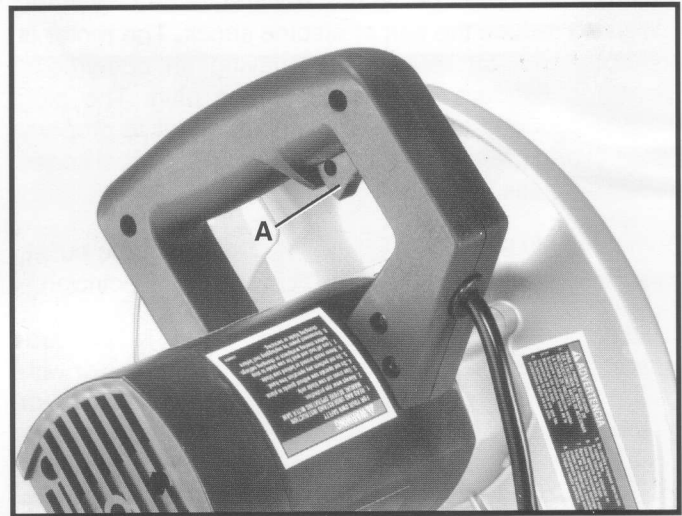

Fig. 13
To start the machine, depress switch trigger (A) Fig. 13. To stop the machine, release the switch trigger.
This miter saw is equipped with an automatic electric blade brake. As soon as the switch trigger (A) Fig. 13, is released, the electric brake is activated and stops the blade in seconds.
DANGER: A TURNING SAW BLADE CAN BE DANGEROUS. AFTER COMPLETING CUT, RELEASE SWITCH TRIGGER (A) FIG. 13, TO ACTIVATE BLADE BRAKE. KEEP CUTTINGHEAD DOWN UNTIL BLADE HAS COME TO A COMPLETE STOP.